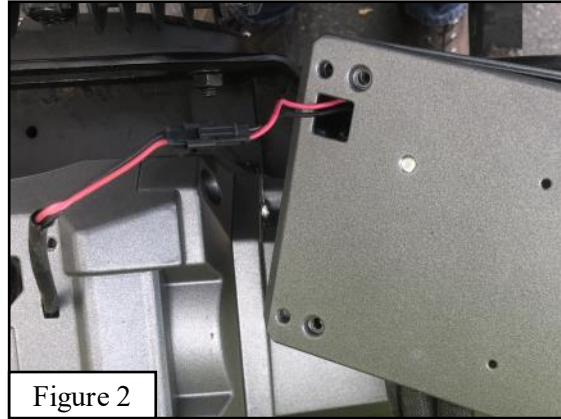

Figure 2
12. Disconnect the drum light cable. See **Figure 2**.
13. Attach the 6 foot long drum light cable (**item 4**) to the drum light cable on the winch.